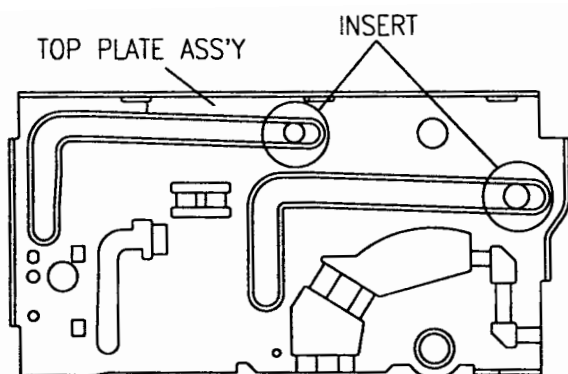

Fig. 17- F/L Brkt R
Reassemble the cassette loading mechanism using the reverse procedures. Confirm that the two (2) bosses on the left side of the cassette holder are inserted into the groove in the left side of the top plate. Insert the two (2) bosses on the right side into the F/L bracket R (Fig. 17)